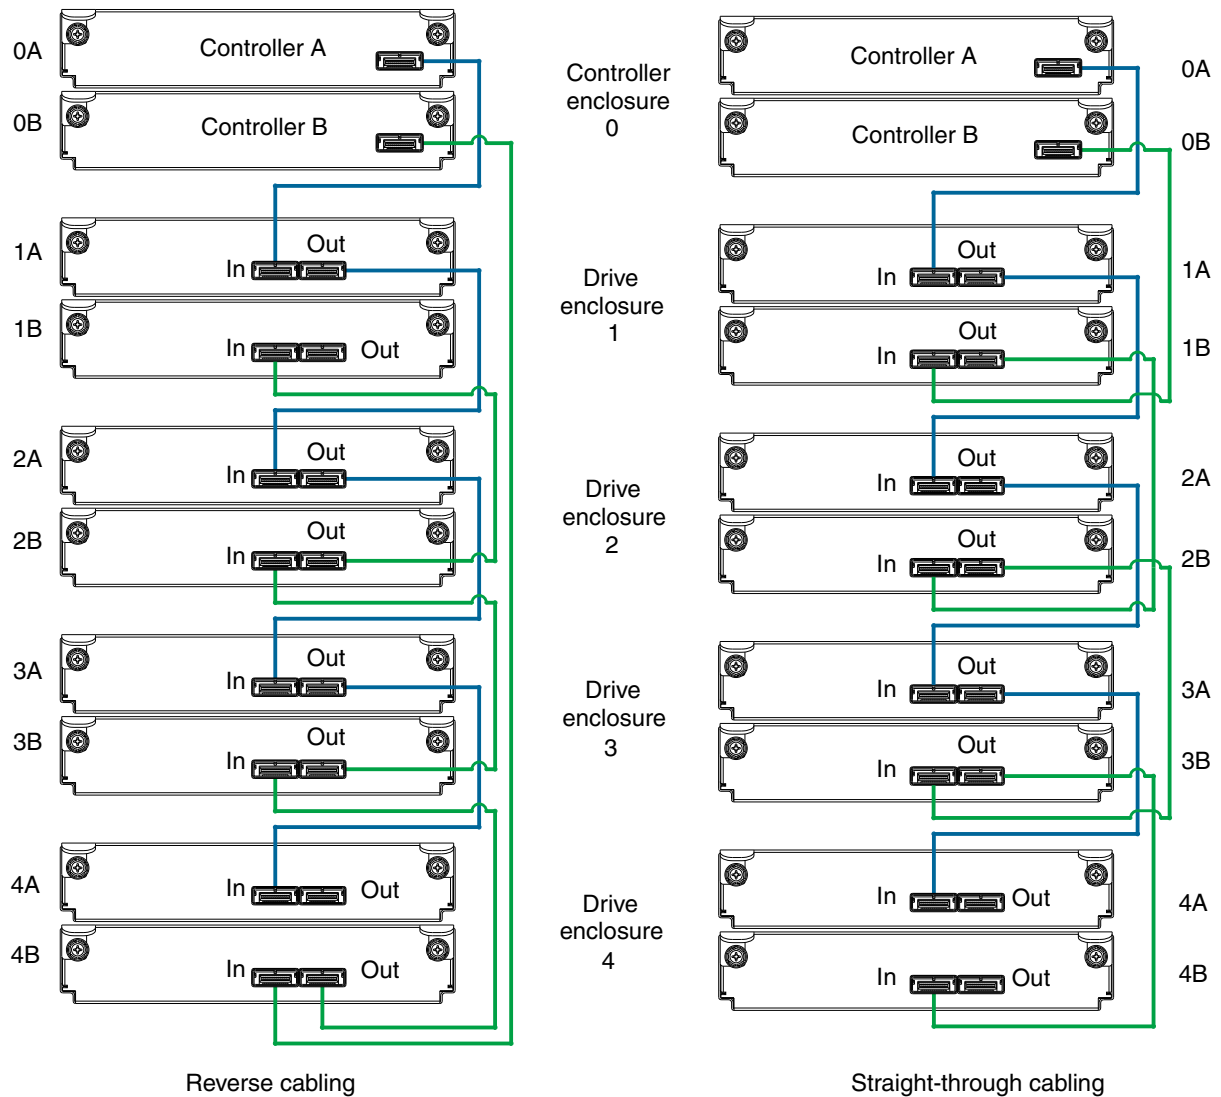

Figure 9 Fault-tolerant cabling between a dual-controller enclosure and four drive enclosures
For example, the illustration on the left in Figure 9 on page 28 shows reverse cabling, wherein controller 0A (i.e., enclosure-ID = 0; controller-ID = Able) is connected to expansion module 1A, with a chain of connections cascading down (blue). Controller 0B is connected to the lower expansion module (B) of the last drive enclosure in the chain, with connections moving in the opposite direction (green). Several cabling examples are provided on the following pages.
The 4004 Series controllers support cabling of 6 Gb SAS link-rate SFF and LFF expansion modules—in mixed model fashion—as shown in Figure 9 on page 28. The simplified rear-panel views of the 4124 and 4134 are identical.
The diagrams above show dual-controller enclosures cabled to drive enclosures featuring dual-expansion modules. Cabling logic is explained in the narrative supporting Figure 9 on page 28.